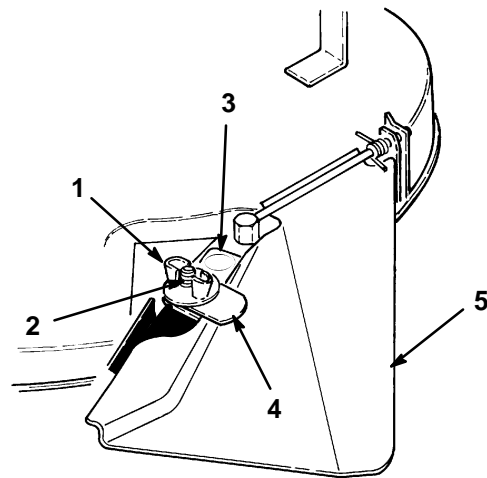

Figure 12
2. Remove the wing nut securing the discharge cover (Fig. 12) to the mower housing. **NEVER REMOVE THE GRASS DEFLECTOR FROM THE MOWER HOUSING (Fig. 12).**